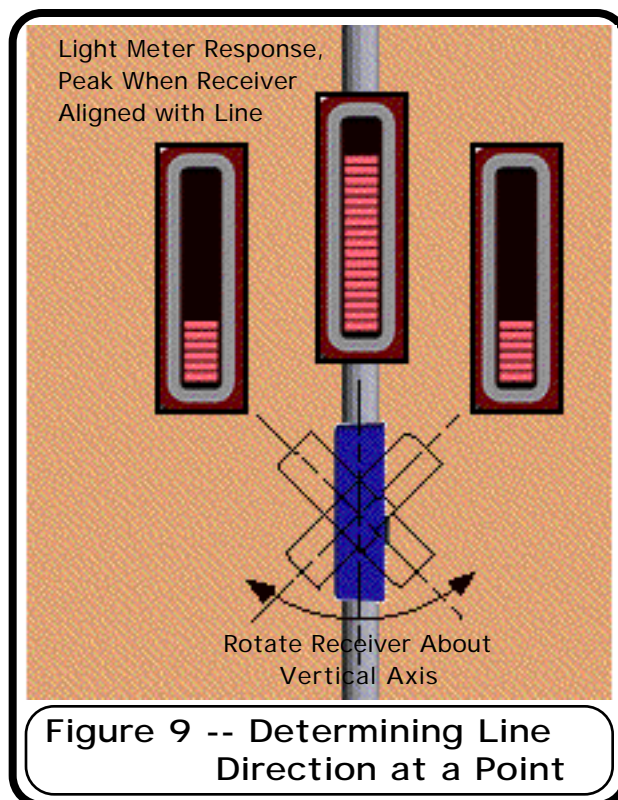

Figure 9 -- Determining Line Direction at a Point
vi) At any time while tracing, you may determine the direction and depth of the line. To determine the direction, rotate the receiver left and right as shown in Fig. 9. Notice that rotating the receiver will cause a peak response as well. When the response is maximum, the receiver box is parallel to the direction of the line. For information on determining line depth, see part (c) of this section.
- vi) Measure the distance between the two null marks (Fig. 9). By triangulation, this surface distance will be the same as the depth to the center of the line. For excavation or trenching purposes, this means that the actual top of the pipe or conduit will be shallower than the measured depth by half of the pipe's diameter. For example, for a 12-inch diameter pipe, the actual depth to the top of the pipe will be 6 inches less than the measured depth.